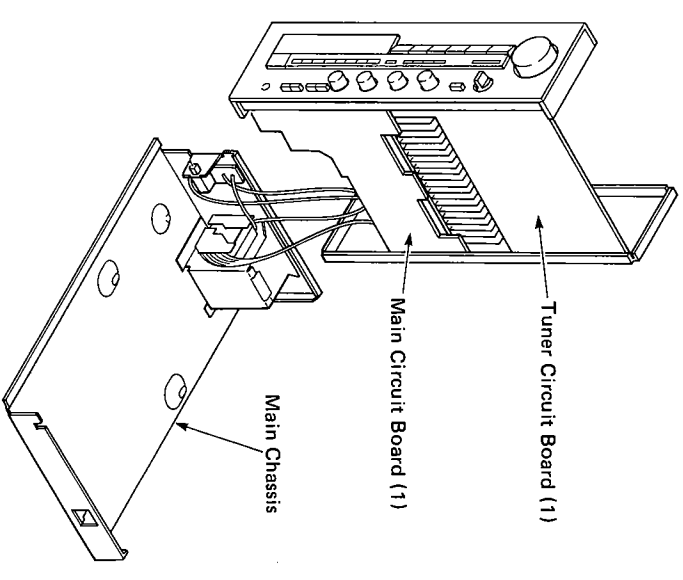

Fig. 2
- c. Remove the Main Chassis as shown in Fig. 2.